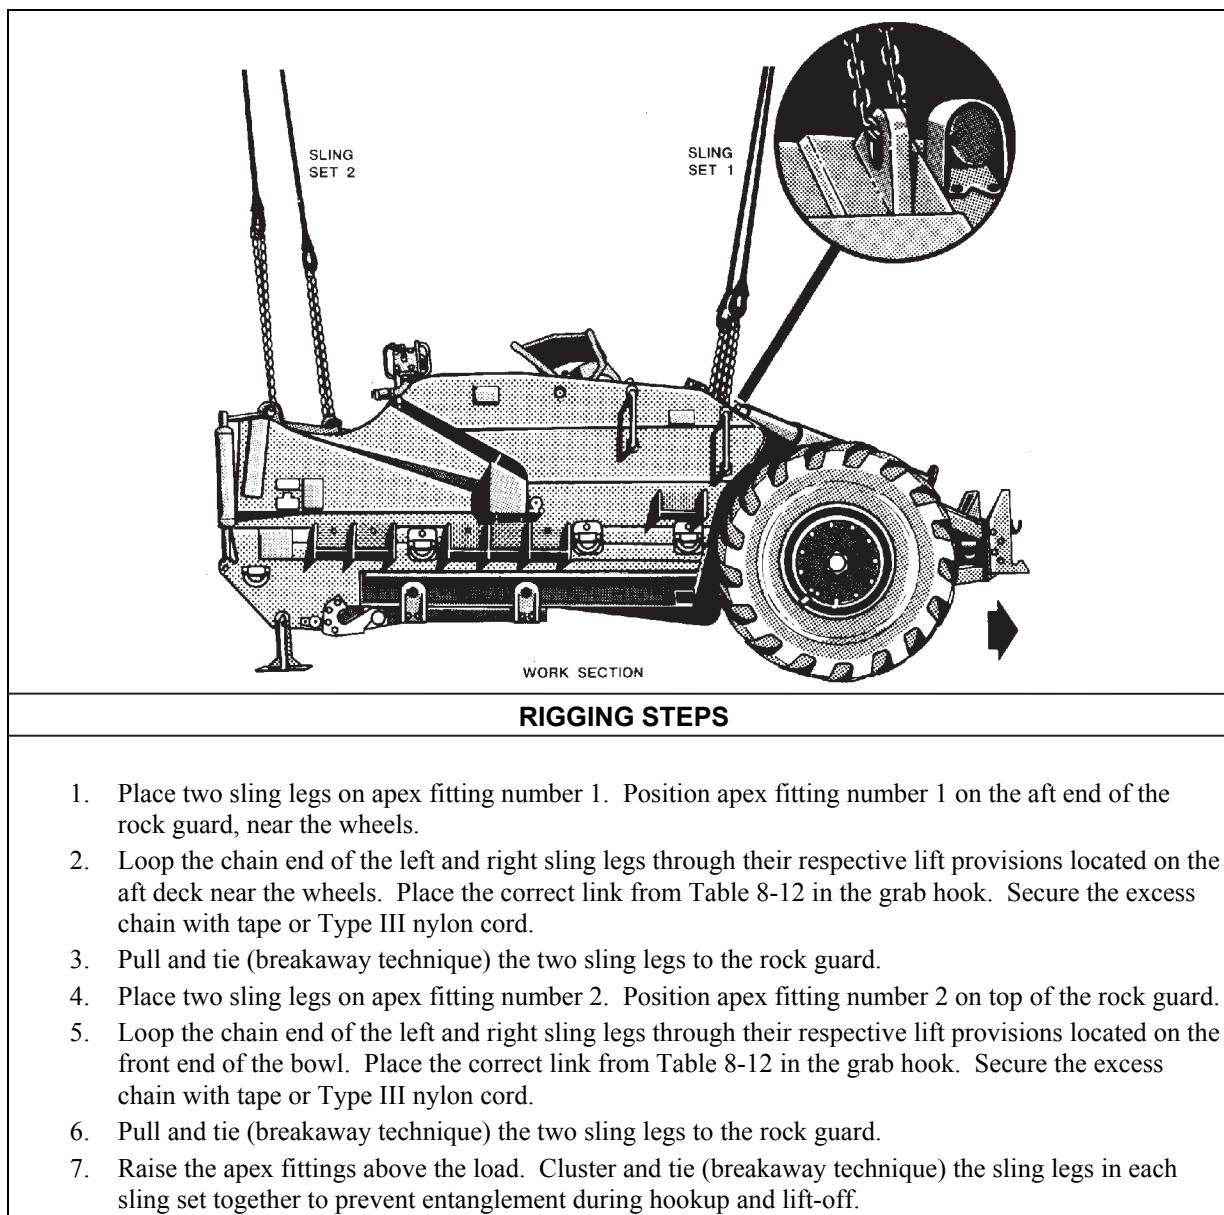

Figure 8-12. 613BS Scraper, Elevating, Sectionalized
- **Rigging.** Rig the load according to the steps in Figure 8-12.